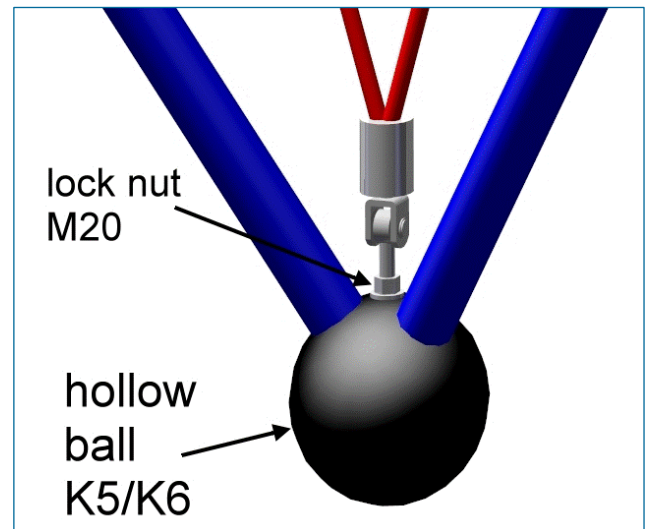
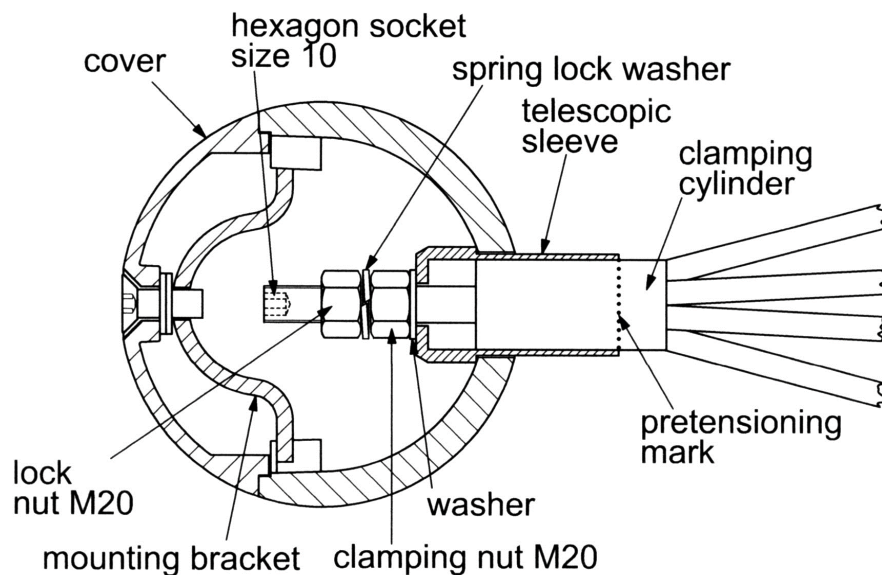

Fig. 7
Fig. 8
The four corner points **K2**, marked at the space net, should now be raised to the hollow balls **K2** using the attached assembly rope and fitted to the tensioning nut. Push the clamping cylinder with the bolt M20 into the telescopic sleeve (Fig. 8) and first of all, tighten it with the clamping nut N20 size 32 by only five turns to make for easier insertion into the spheres. The space netting should now be completely removed from the crate.
Preassembly of the space netting is continued on joints **K5** and **K6** (Fig. 7), then on joint **K3** and finally on joints **K4** (**K3** and **K4** are mounted like **K2**, (Fig. 8). The straining screws should initially only be tightened about 5 threads by the tensioning nuts.
Tightening begins at joints **K5** and **K6** and is carried out with the tensioning nuts M20 size 30. At this point the straining screws should be tightened as far as possible, so that the lock nuts previously set in the works (Fig. 7) come into firm contact with the joints. Further tightening is carried out on joints **K2**, **K3** and **K4**. At this points tightening must be carried out with the special socket spanner size 32 which is supplied. It must be tensioned up to the pretensioning mark. The net finally has a good uniform strong tension.
Please note, that at all clamping points **the ropes are not distorted** when you tensioning the net. If necessary hold it firm with a practical tool. (figure 8).
After the tensioning the clamping nuts at all joints **K2**, **K3** and **K4** are to lock with the supplied locking nut M20 size 32 including a spring lock washer. **When you tightened the lock nut, you can hold up the M20 bolt with an Allen key size 10** (Fig. 8).
Now the lock nuts should be checked at the joint points **K5** and **K6** are firmly anchored (Fig. 7). After that, all joints **K1, K2, K3, K4, K5 and K6** can be locked with the prepared ball covers via the retaining bracket in the cover (Fig. 8). Please fix all the covers that our logo is readable. Thank you.
- The first re-tensioning of the equipment must be carried out after it has been used for between 1 and 2 weeks. Re-tensioning is done using the clamping nuts M20 which are situated in the hollow spheres (**K5 and K6**). After removing the cover, using a size 10 Allen key, a socket spanner is used to increase the tension on the tensioning nut size 30. The lock nut size 30, which is on the outside of the hollow ball (Fig. 7), should first be loosened. After the re-tensioning the lock nuts are to be tightened. The further re-tensioning is carried out on the hollow spheres **K2, K3 and K4**. At this points re-tensioning must be carried out with the special socket spanner size 32 which is supplied. The lock nut size 32 (Fig. 8) should first be loosened. It must be tensioned beyond the pretensioning mark. After the re-tensioning the clamping nuts at all joints **K2, K3 and K4** are to lock with the supplied locking nut M20 size 32. . Please note the right position of the spring lock washer between the two nuts. When you tightened the lock nut, you can hold up the M20 bolt with an Allen key size 10 (Fig. 8). Now the lock nuts should be checked at the joint points **K5 and K6** are firmly anchored (Fig. 7). After that, joints **K2, K3, K4, K5 and K6** can be locked with the prepared ball covers via the retaining bolt in the cover. Please fix all the covers that our logo is readable. Thank you.
- Check that the lock nuts (Fig. 7) fit firmly on the hollow balls **K5 and K6**.